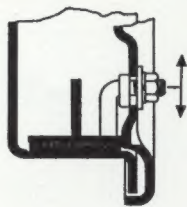

Fig. N29C—If a shoe stop is used it will be at lower end of backing plate as shown above
- 1a. If brakes are equipped with shoe stop as in Fig. N29C, loosen the locknut and move each stop upwards in its elongated hole and temporarily tighten the locknut. This will eliminate interference during shoe adjustment.
9. Move each shoe stop down until it just contacts shoe as shown in Fig. N29C, then tighten stop locknut at all four wheels.